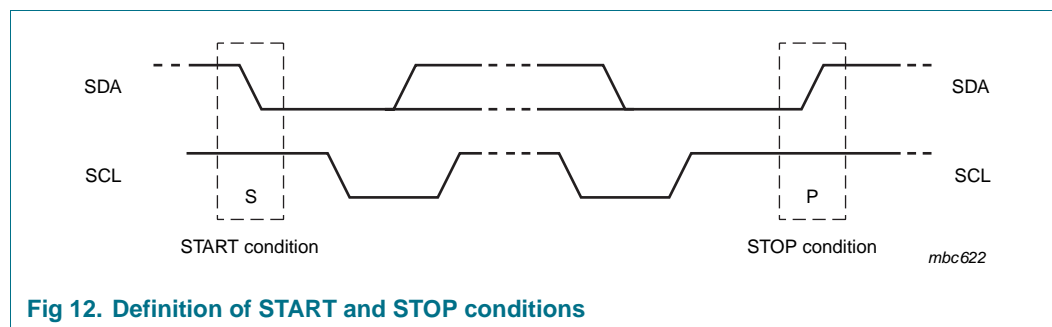

Fig 12. Definition of START and STOP conditions
Both data and clock lines remain HIGH when the bus is not busy. A HIGH-to-LOW transition of the data line, while the clock is HIGH is defined as the START condition (S). A LOW-to-HIGH transition of the data line while the clock is HIGH is defined as the STOP condition (P). The START and STOP conditions are illustrated in Figure 12.